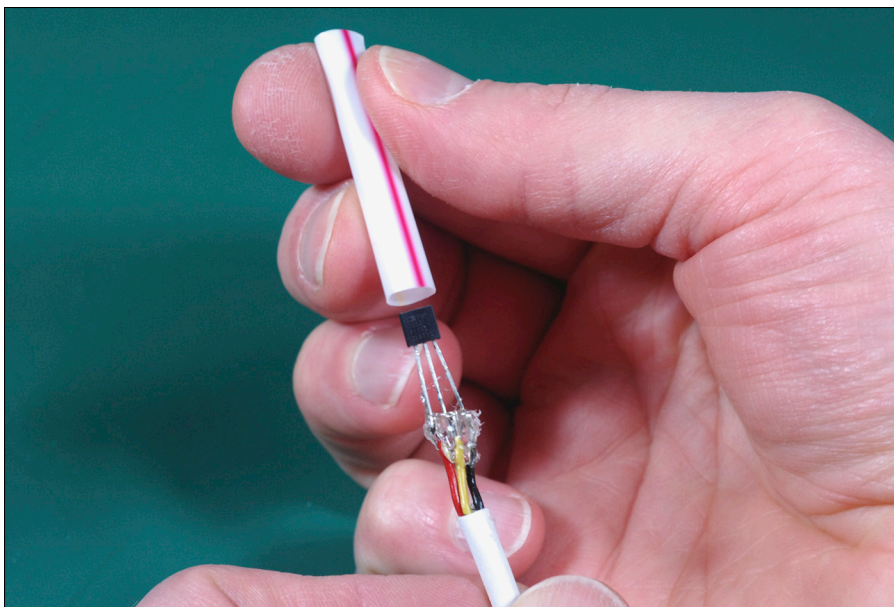

Figure 12-8:
9. After the glue cools, test that each sensor fits snugly into its straw, as shown in Figure 12-8. But make sure the leads don't touch each other or you'll have a short circuit.